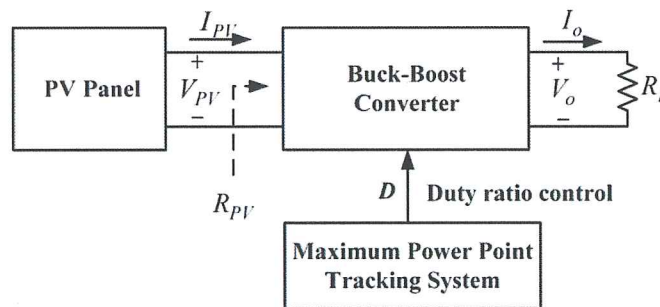

Fig.1
1. A buck-boost DC-DC converter is used for maximum power point tracking of solar photovoltaic system (Fig. 1).